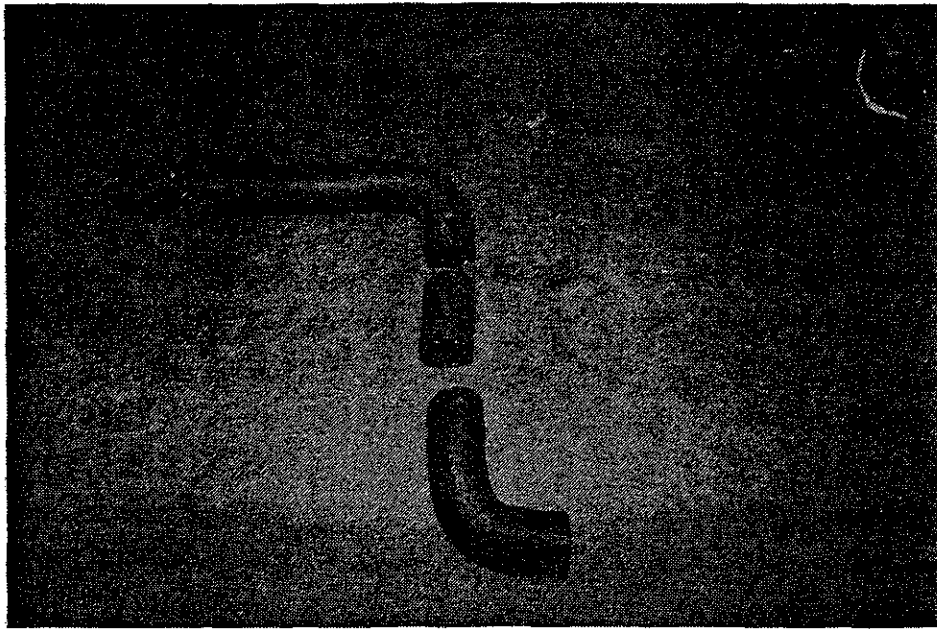

FIGURE 5
7. For a professional installation, you should remodel (shorten) the molded hose that runs between the Smog Pump Diverter and By-pass Valves. This is accomplished by cutting 3" of hose from the center section of the molded hose, and 1-1/2" from the rearward end, as shown in Figure 5.